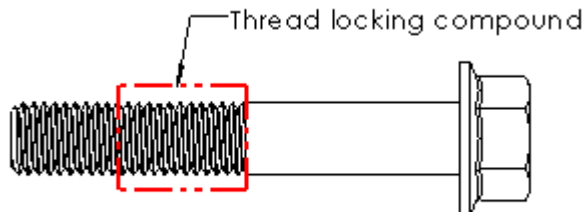

Figure 3
- G. Apply a thread locking compound to the bolt thread as shown in figure 3.